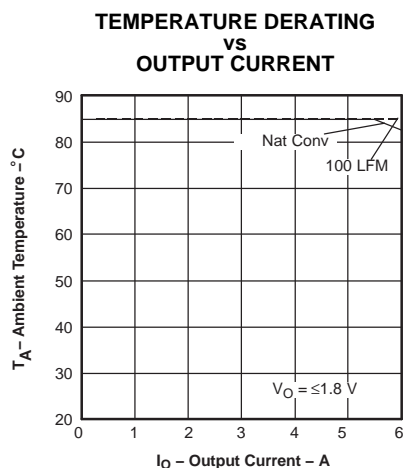

Figure 9.
- (2) SOA graphs represent the conditions at which internal components are at or below the manufacturer's maximum operating temperatures. Derating limits apply to modules soldered directly to a 4 inches × 4 inches double-sided PCB with 1 oz copper. For surface mount packages (AS and AZ suffix), multiple vias (plated through holes) are required to add thermal paths around the power pins. Please refer to the mechanical specification for more information. Applies to Figure 9.